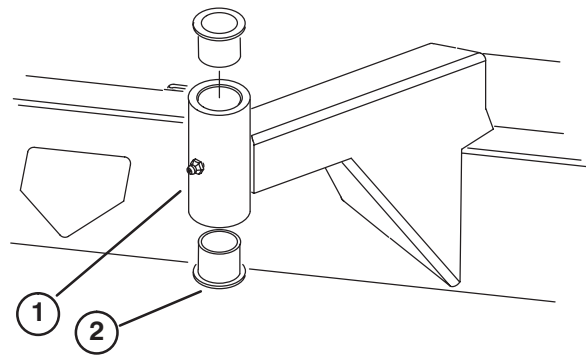

Figure 77
4. Insert pin punch into top or bottom of mounting tube and drive bushing out of tube (Fig. 77). Also drive other bushing out of tube. Clean inside of tubes to remove dirt.